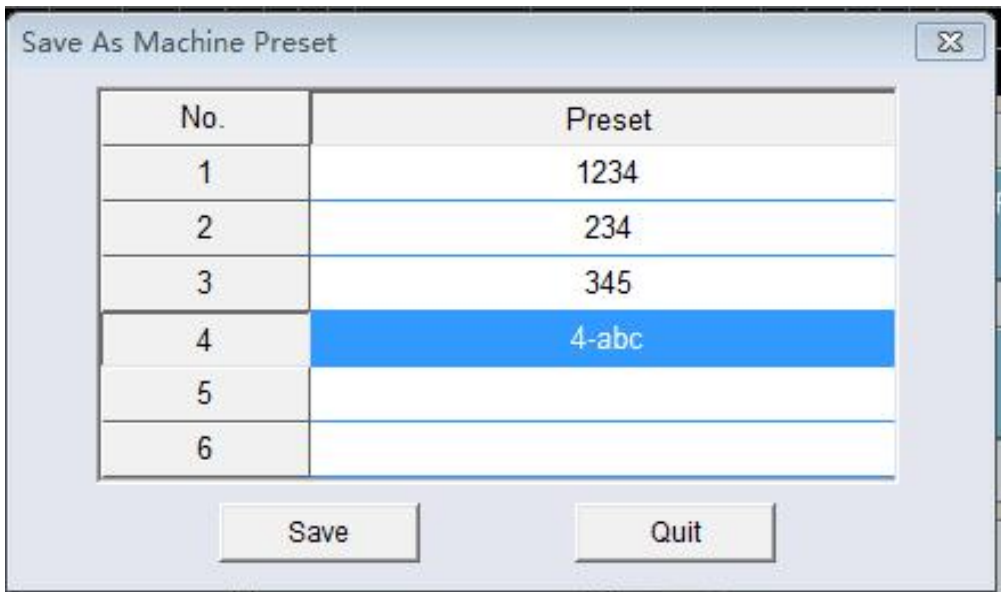

figure 3.4.4
Step 4: Enter a name (such as 4-abc), named in the point you want as shown in "Input Scene name" dialog box shown in 3.4.3 "OK" button to save and return as shown in Figure 3.4.4 a. Point "Exit" button to complete the save as preset scene machine operation. This completes the scene to save the current operating mode of the machine to the machine presets Group 4, and is also the current machine running scene, you can see the upper left corner of the software will display the current run of the name of the preset scene.